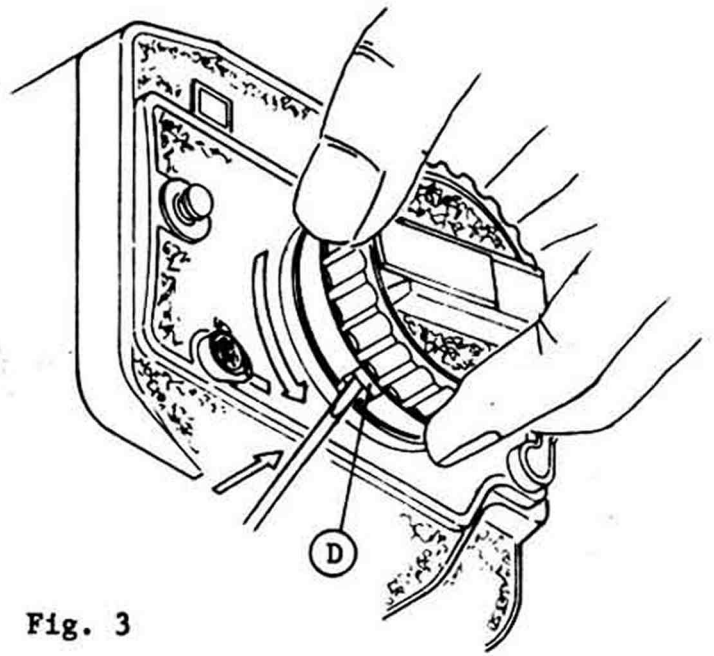

Fig. 3
- 2 While holding the release lever ① of the knob in the UP position with a small screwdriver or suitable tool, rotate knob counterclockwise and it will disengage from camera body as shown in Fig. 3.